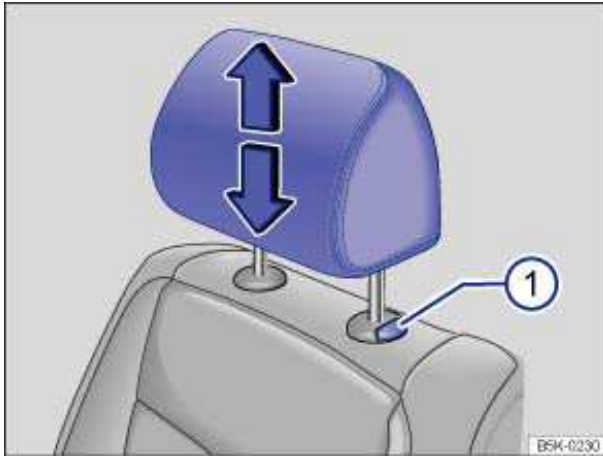
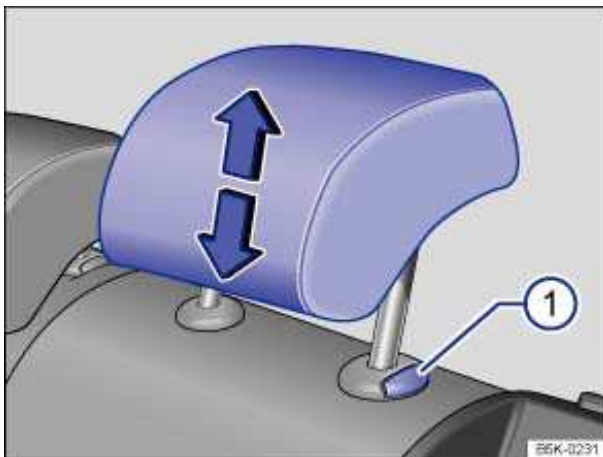

Fig. 58 Adjusting the front head restraints.
Fig. 59 Adjusting the rear head restraints.
- Push the head restraint up in the direction of the arrow or down when the button ⇒ fig. 58 \(1\) or ⇒ fig. 59 \(1\) is pressed ⇒ ⚠.